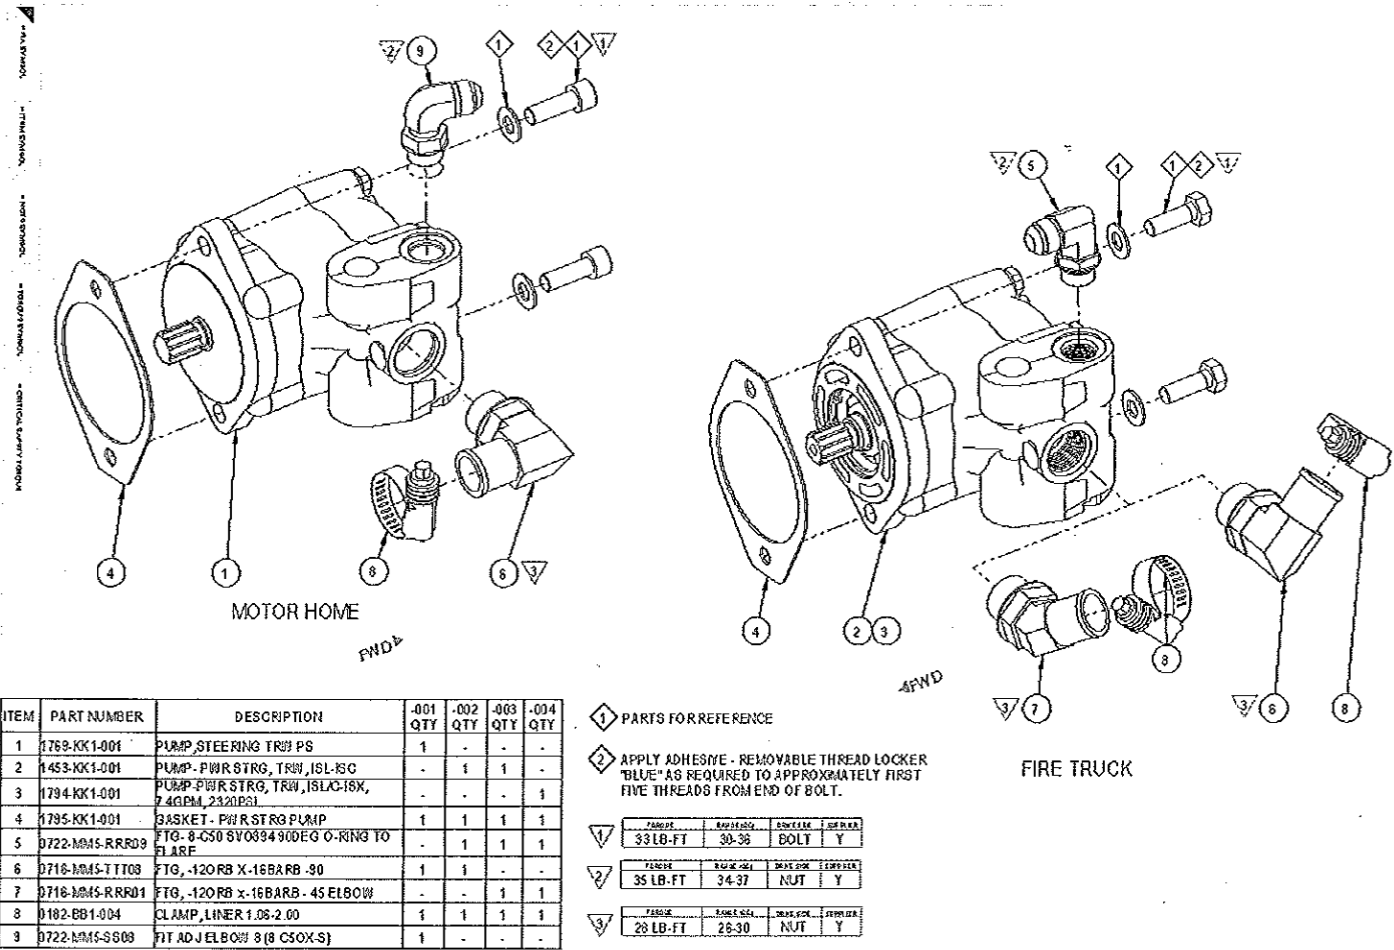

FIG. 8-1
- Install provided fittings on new pump. Take note of fitting orientations off old pump. Refer to FIG. 8-1.